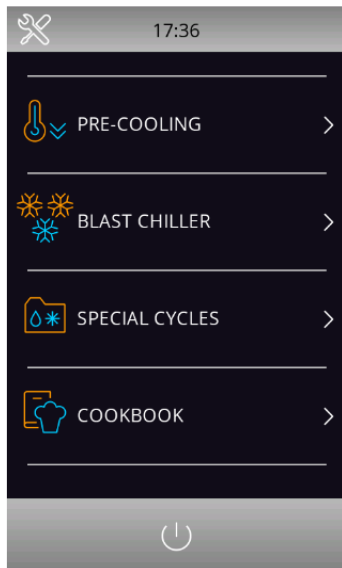

Figure 5
- After this operation, the Main Screen will be displayed (Figure 5).